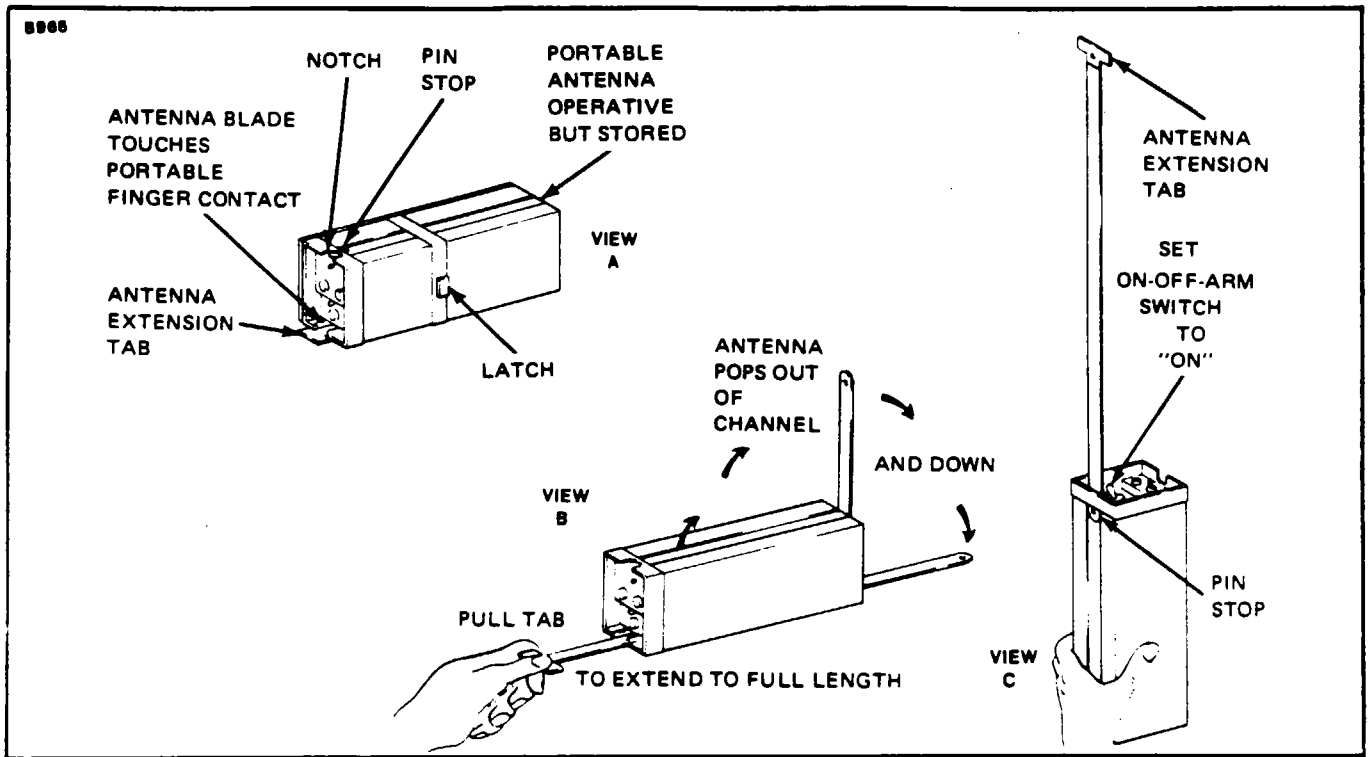

Figure 12-7. ELT Portable Folding Antenna (Narco.)
12-7. REMOVAL AND INSTALLATION (NARCO.) The ELT is located under the dorsal fin. (Refer to Figures 12-7 and 12-8.)
5. Extend the portable antenna. (See Figure 12-7.)